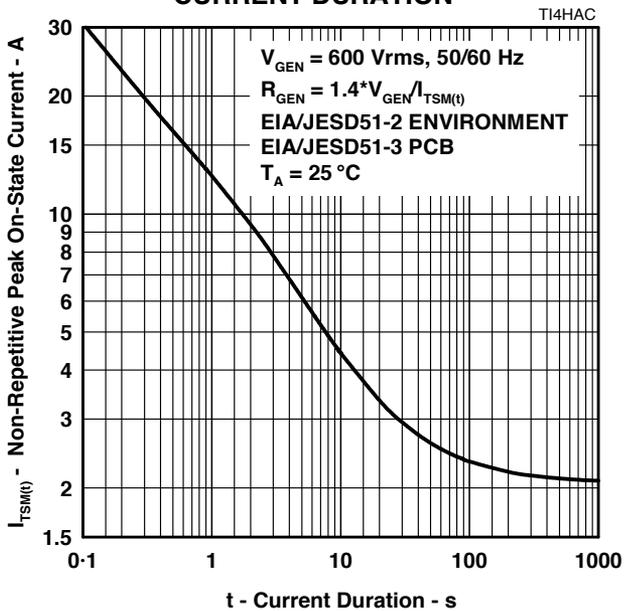

Figure 6.
4. EIA/JESD51-2 environment and EIA/JESD51-3 PCB with standard footprint dimensions connected with 5 A rated printed wiring track widths. See Figure 6 for the current ratings at other durations. Derate current values at $-0.61\text{ \%}/^{\circ}$ C for ambient temperatures above 25 °C .